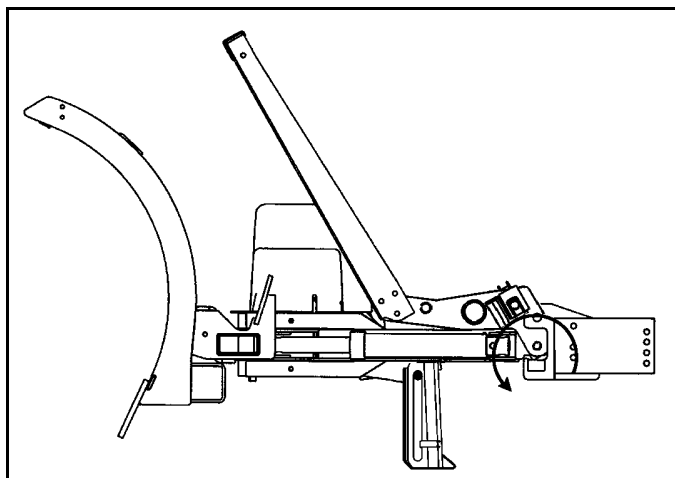

Figure 1-14
6. Rotate jack stand down and raise A-frame by pressing the up button. (See Figure 1-14)